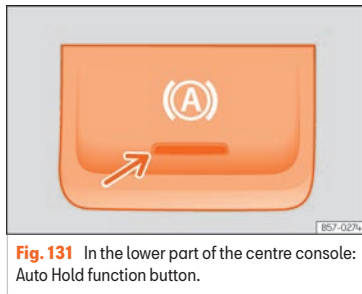

Fig. 131 In the lower part of the centre console: Auto Hold function button.
-  When the Auto-Hold function is active, the control lamp on the instrument cluster lights up green. The control light of the  >>> Fig. 131 button remains on when the Auto Hold function is connected.